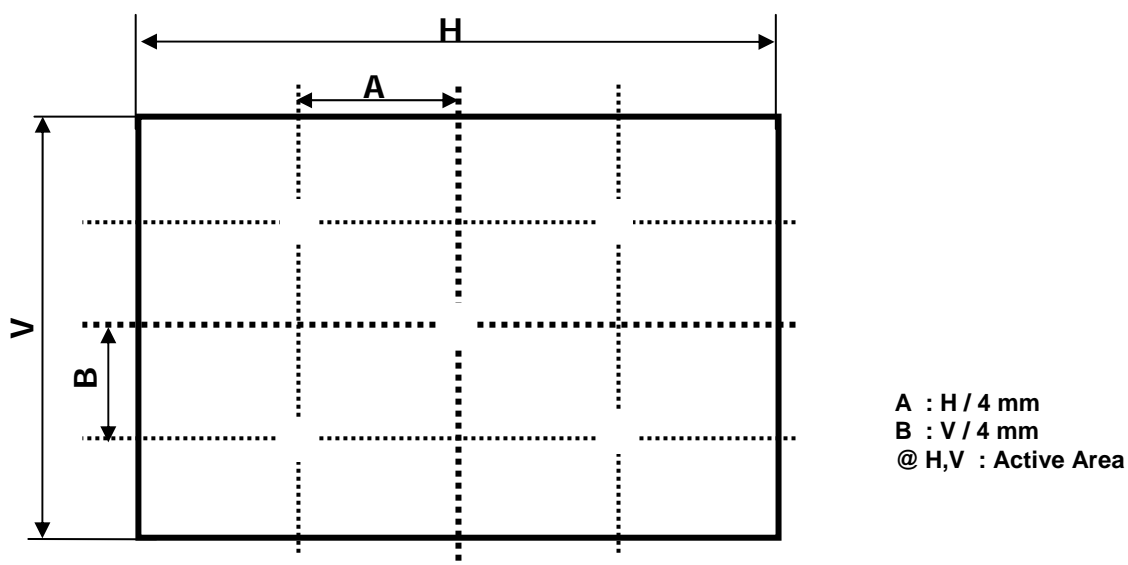

FIG. 2 5 Points for Luminance Measure
2. Surface luminance are determined after the unit has been 'ON' and 1 Hour after lighting the backlight in a dark environment at  $25 \pm 2^\circ\text{C}$ . Surface luminance is the luminance value at center 1-point across the LCD surface 50cm from the surface with all pixels displaying white. For more information see the FIG. 2.
For more information, see the FIG. 2.